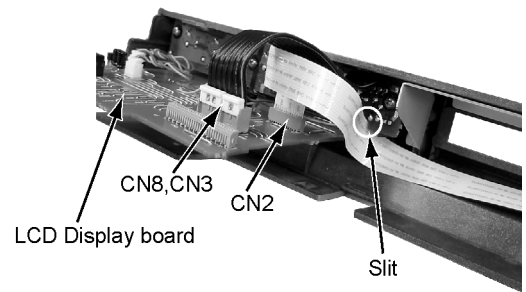

Fig.10
(See Figure 10, 11, and 12)
- (1) Extract card wire and flat wire from connector CN2, CN3, and CN8 on LCD display board.
- (2) Remove four screws H that attach an operation switch board, and then operation switch board.
- (3) Remove support button, LCD display board, and push button in this order.
- **After the operation switch board is attached to its place, let a card wire through a slit on the operation switch board, and then insert it in CN2. (See Figure 10.)**